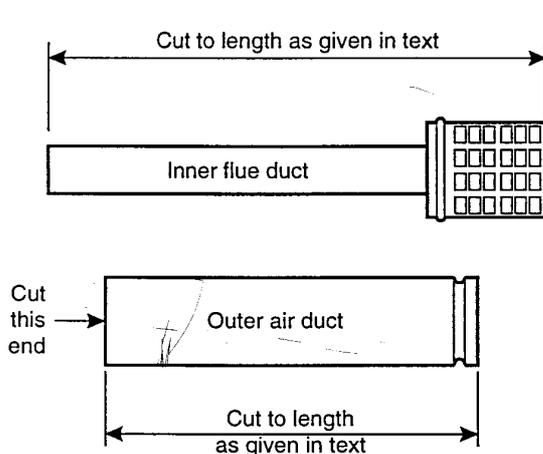

Fig. 10
3.5 FIT THE STANDARD HORIZONTAL FLUE (See Figs. 10 and 11)
- 3 Mark the outer air duct to match the length given above, measure from the swaged 'outer' end of the tube. See Fig. 10.
- 4 Mark the inner flue duct to match the length given above, measure from the outermost edge of the terminal. See Fig. 10. Push the spacing dip towards the terminal so that it will be about in the middle of the duct when it is cut to length. The dip can be removed on short flues, below 500 mm.
- 6 Fit the outer sealing collar over the swaged end of the outer duct, ensuring it locates in the swage. See Fig. 10.